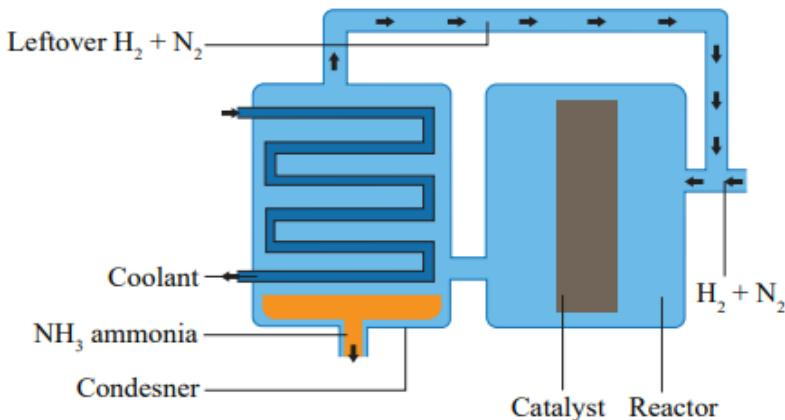

Figure 3.2: production of NH₃ using Haber-Bosch process
Step 3: The hot mixture of gases is then passed through a condenser. Since ammonia condenses easily as compared to nitrogen and hydrogen, the liquefied ammonia is collected and removed, and the leftover nitrogen and hydrogen gases are re-introduced into the reactor. Thus, pressure is maintained, and there is no loss or wastage of reactants. This recycling of the raw materials allows a 97% conversion of initial reactants into ammonia, which is, then, used to produce a variety of products. The steps are shown in **Figure 3.2**.